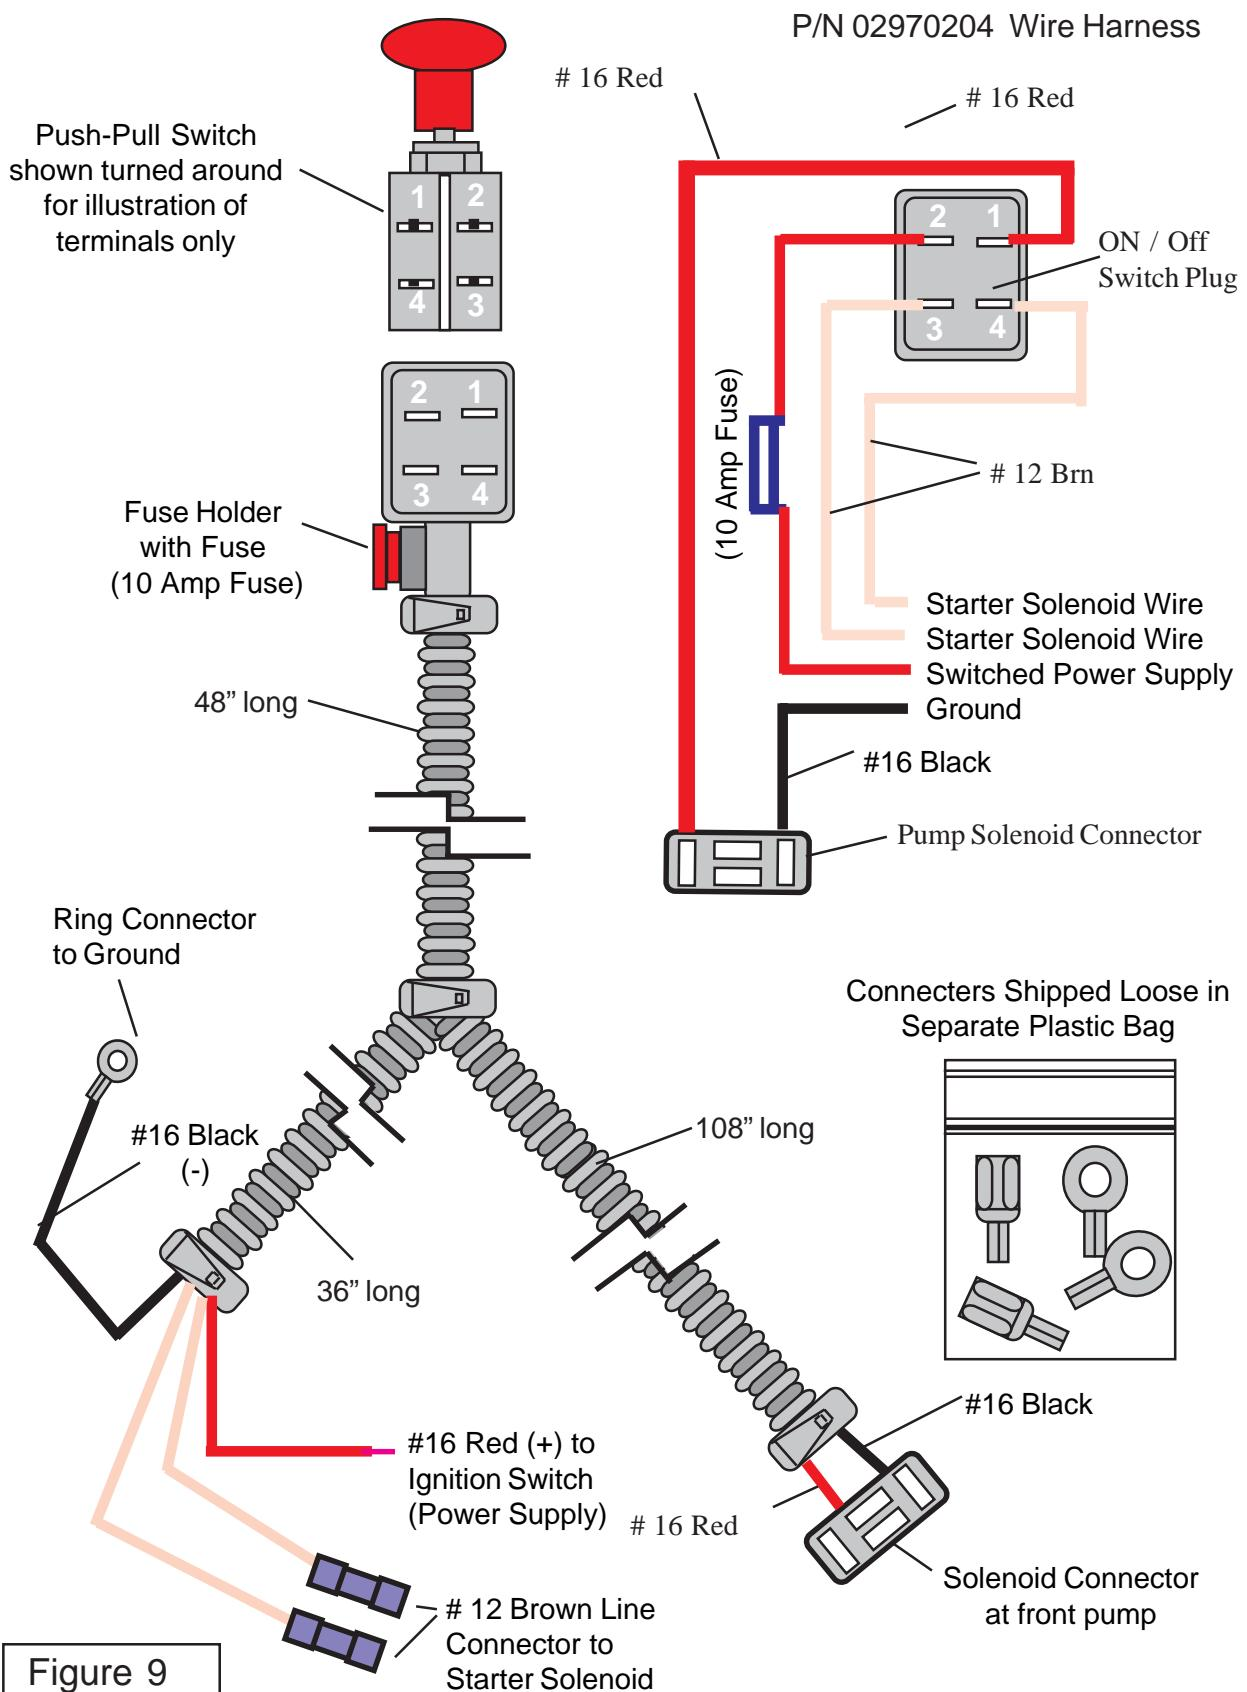

Figure 9
4. Install Wire Harness Through Tractor Floor. The wire harness will have two leads, one stays in the cab to connect to the tractors system the second goes through the floor to connect to the pump solenoid. Both will run through the cable boot to where they split up under the floor mat, the outside lead will go through the floor and the inside lead will go under floor mat to the tractor control panel (See Figure 9, 10 & 11).